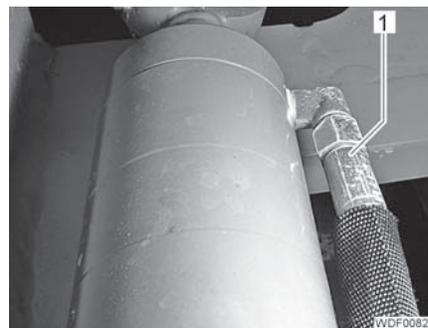

Fig. 25 Hydraulic connection, rod end
- Unscrew and close off the hydraulic line (Fig. 25,1).